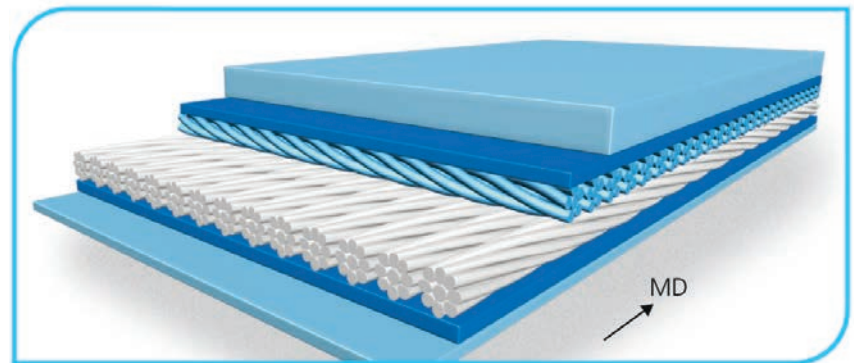
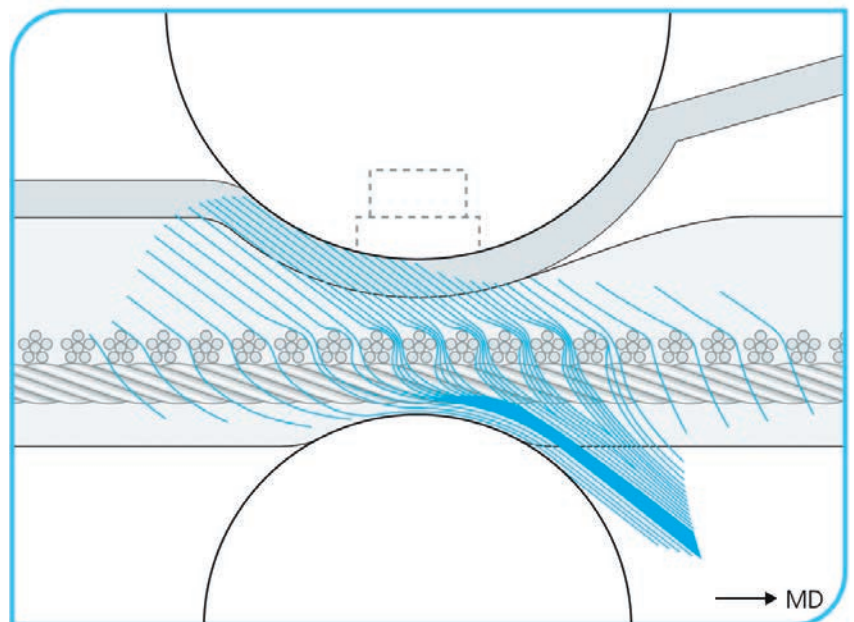

Figure 4 ATROCROSS felt
Figure 5 ATROCROSS: Nip dewatering reduced rewetting
3. Nip dewatering – the optimal clothing The achievement of maximum nip dewatering requires the use of specially developed press felts. The proven ATROCROSS non-woven felts from Heimbach (Figure 4) combine all the attributes required to achieve a high efficiency nip dewatering (Figure 5). They have proven themselves many times round the world. The experiences made from this brought nip dewatering to its current highly developed level. In this manner, Heimbach has pioneered the way to speeds of more than 2000 m/min.